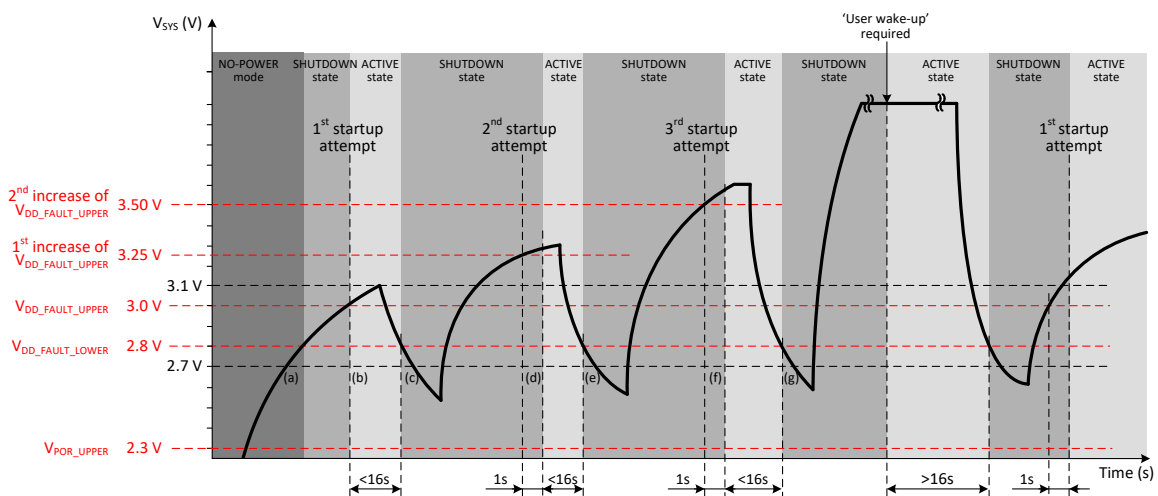

Figure 5: VDD_START Faults
VSYS monitoring also includes a VDD_START feature to prevent endless looping of false-starts in a weakly-powered system. VDD_START limits the number of automatic restart attempts to three. With reference to Figure 5:
- Figure 5(a): the PMIC starts from NO-POWER mode.
- Figure 5(b): First startup attempt. The PMIC transitions to the ACTIVE state when VSYS rises above VDD_FAULT_UPPER.
- Figure 5(c): If, during the first startup attempt, the VSYS supply drops below VDD_FAULT_LOWER for more than 100 ms, the PMIC shuts down to the SHUTDOWN state. VDD_FAULT_UPPER is increased automatically by 250 mV. However, the increased VDD_FAULT_UPPER is limited to a maximum of 3.70 V.
- Figure 5(d): Second startup attempt. If VSYS rises above the new VDD_FAULT_UPPER threshold, then the PMIC will power-up to the ACTIVE state.
- Figure 5(e): If, during the second startup attempt, the VSYS supply drops below VDD_FAULT_LOWER for more than 100 ms, the PMIC shuts down to the SHUTDOWN state. VDD_FAULT_UPPER is increased automatically by a further 250 mV (500 mV above its original setting). However, the increased VDD_FAULT_UPPER is limited to a maximum of 3.70 V.
- Figure 5(f): Third startup attempt. If VSYS rises above the new VDD_FAULT_UPPER threshold, then the PMIC will power-up to the ACTIVE state.
- Figure 5(g): If, during the third startup attempt, the VSYS supply drops below VDD_FAULT_LOWER for more than 100 ms, the PMIC shuts down. From then on, AUTO_BOOT and wake-up from non-user events are temporarily disabled. 'User events' are defined in the datasheet.